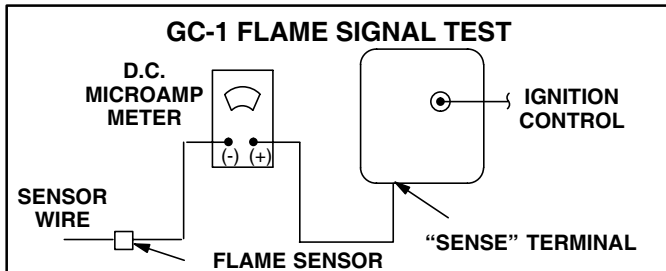

FIGURE 63
- 1 - Place meter in series between ignition control and sensor wire. Connect positive (+) lead of meter to ignition control sensor connection and negative (-) lead of the meter to sensor wire. See figure 63.